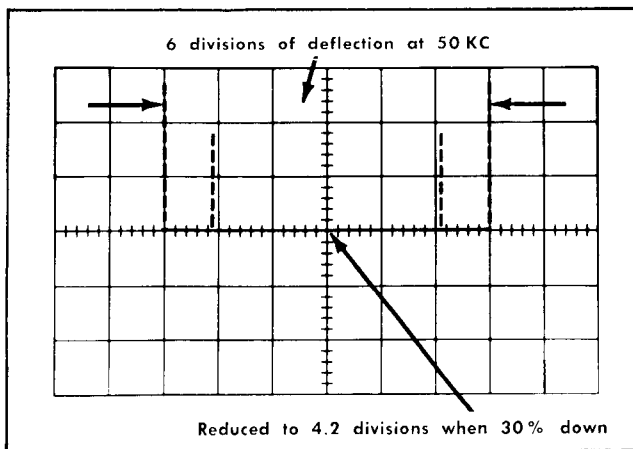

Fig. 5-9. Typical crt display when checking external horizontal frequency response.
- Without changing the output amplitude, increase the output frequency until the horizontal deflection is reduced to 4.2 divisions (see Fig. 5-9).